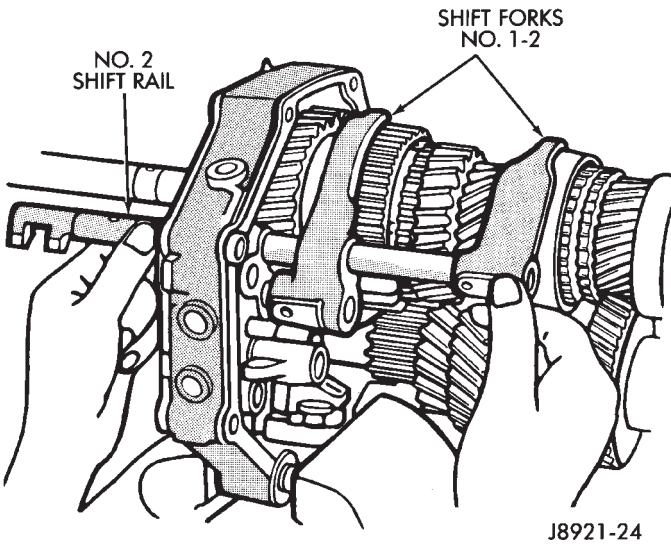

Fig. 16 Removing Shift Forks And No. 2 Shift Rail
(10) Remove shift rail No. 2 and shift forks 1 and 2 (Fig. 16).